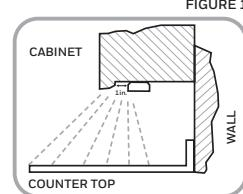

FIGURE 1
- Carefully plan the installation prior to mounting the Bright Strips. Make sure the 5ft. power supply cord will reach the nearest electrical outlet and the 18in. linking cord will reach the first Bright Strip. For kitchen installations, the recommended mounting for the Bright Strips is under the cabinets 1in. from the front lip (see Figure 1). This provides the best light distribution across a countertop.